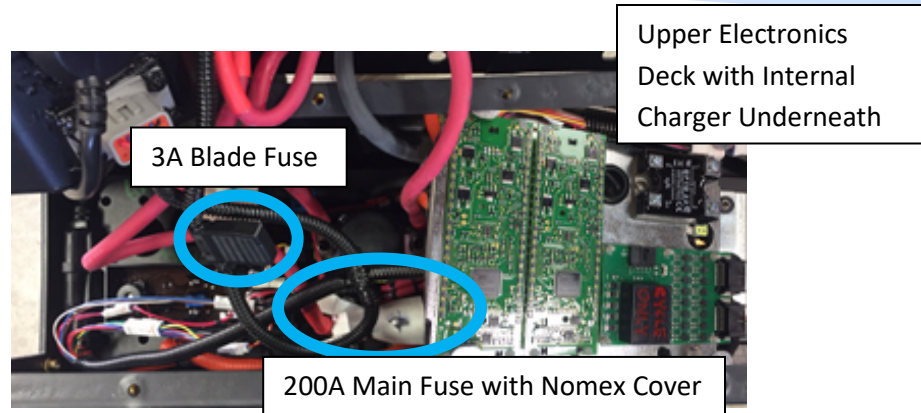

Figure 3: Pack internals viewed from above. Note the fuse locations and charger location.
- 1 Storage Mode** – The pack may be in storage mode. Check the breaker in the cable storage box on the lid of the battery. Cycle the breaker by firmly pressing the red button in (OFF), and then folding in the yellow tab on the side of the breaker (ON). If this does not revive the battery, continue to step 2.
- 3 Blown Fuse** – There are two fuses inside the LiFT Pack, the main fuse (200A), and the inline blade fuse (3A). The fuse locations are shown in figure 3. Check the fuses for continuity and replace if blown.